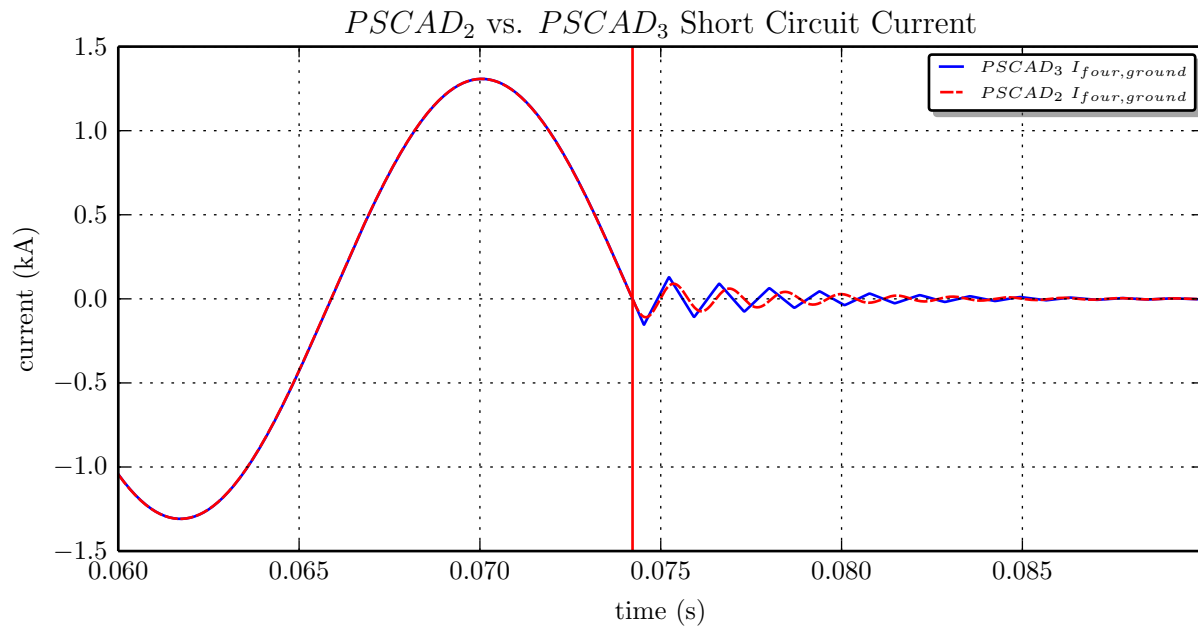

Figure 15: Zoomed plots of $I_{four,ground}$ short circuit current (zoomed at breaker opening)
- The other difference we can see between assignments 2 and 3 is how much sharper the transitions are in assignment 3 when the solution is unstable at the beginning and during breaker opening. Assignment 2's solution reacts with much more smoothness, almost as if it was filtered. This is evident in both Figures 15 and 16, where we zoom into these active moments in the circuit's simulation.